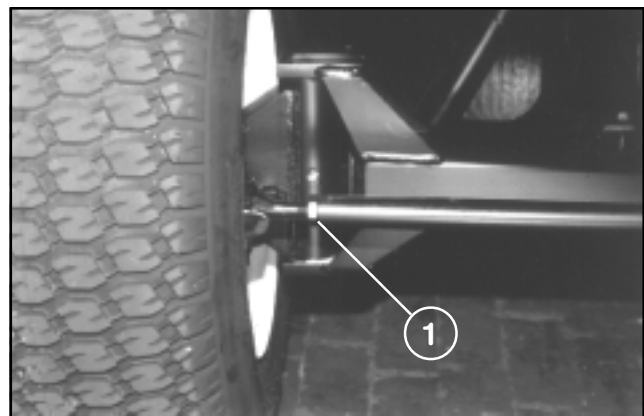

FIG. 48
2. To adjust, loosen jam nuts at both ends of the tie rod. (FIG. 48)